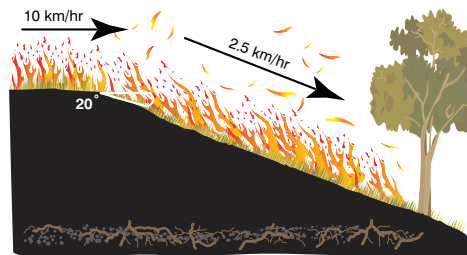

Figure 6 – the effect of downslope
*For example (see Figure 6): a fire is travelling at 10 km per hour on level ground towards a 20° down-*